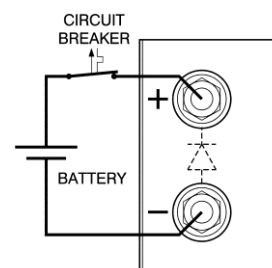

fig 4 - 8
Use a CIRCUIT BREAKER in series in order to protect the power supply from **accidental reverse connection** (see fig. 4 - 8). The circuit breaker should have a DC voltage rating twice the battery voltage. Use the very fast type (Z), a type meant for protecting semiconductors (see table 4 - 2).